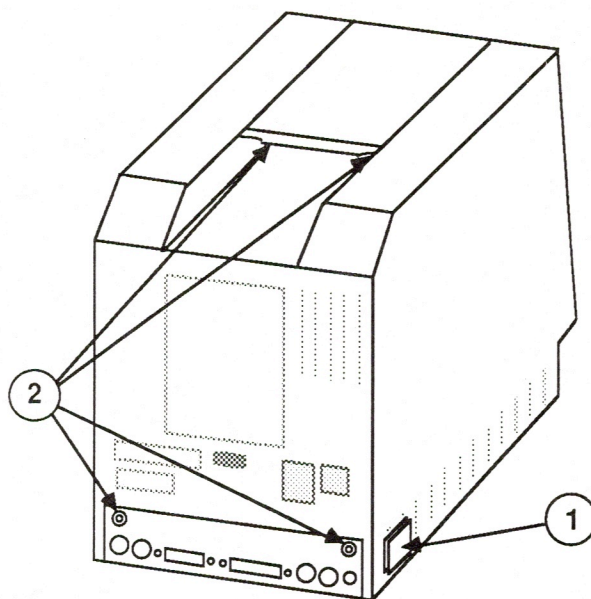

FIGURE 1
4. If a reset/interrupt switch (Figure 1, #1) is present, pry it off with a small flatblade screwdriver.
6. Use the Torx screwdriver to remove the four case screws (Figure 1, #2).
4. Reinstall the four case screws (Figure 1, #2).
5. Reinstall the reset/interrupt switch (Figure 1, #1).